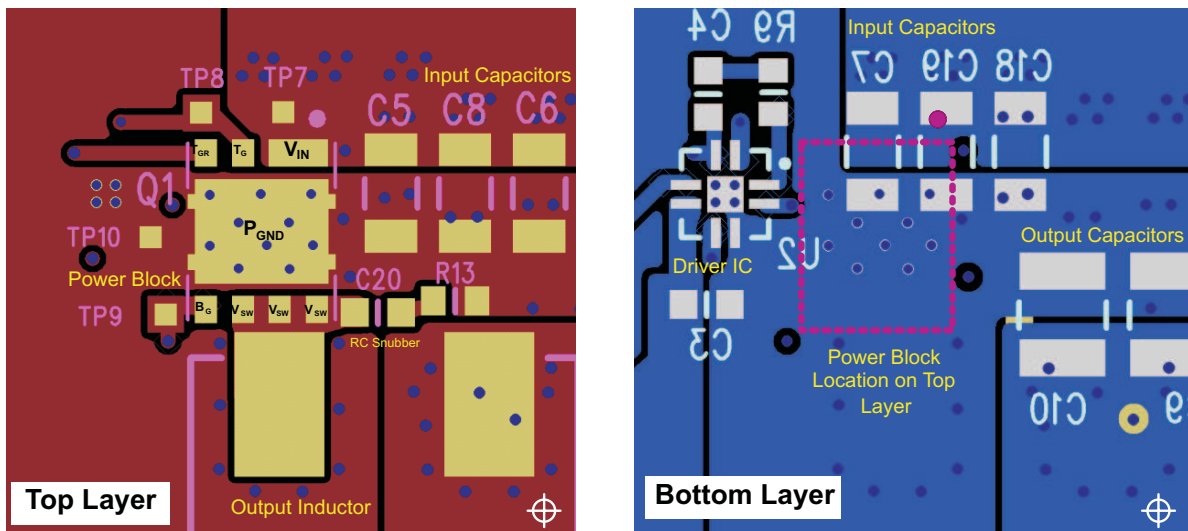

Figure 33. Recommended PCB Layout (Top View)
- The placement of the input capacitors relative to the Power Block's VIN and PGND pins should have the highest priority during the component placement routine. It is critical to minimize these node lengths. As such, ceramic input capacitors need to be placed as close as possible to the VIN and PGND pins (see Figure 33). The example in Figure 33 uses 6 × 10-μF ceramic capacitors (TDK Part # C3216X5R1C106KT or equivalent). Notice there are ceramic capacitors on both sides of the board with an appropriate amount of vias interconnecting both layers. In terms of priority of placement next to the Power Block, C5, C7, C19, and C8 should follow in order.
- In the event the switch node waveform exhibits ringing that reaches undesirable levels, the use of a Boost Resistor or RC snubber can be an effective way to reduce the peak ring level. The recommended Boost Resistor value will range between 1 Ω to 4.7 Ω depending on the output characteristics of Driver IC used in conjunction with the Power Block. The RC snubber values can range from 0.5 Ω to 2.2 Ω for the R and 330 pF to 2200 pF for the C. Refer to TI App Note SLUP100 for more details on how to properly tune the RC snubber values. The RC snubber should be placed as close as possible to the Vsw node and PGND see Figure 33.(1)
- Use the smallest drill size allowed in your design. The example in Figure 33 uses vias with a 10 mil drill hole and a 16 mil capture pad.